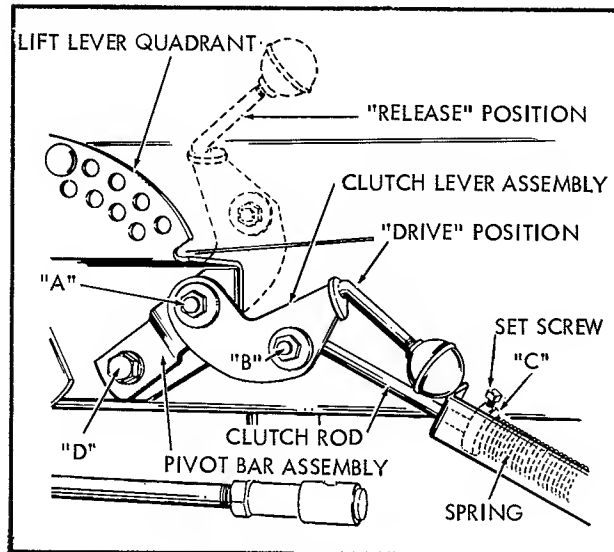

Fig. 4
4. Remove hex cap screw "D" from frame of tractor and mount bracket in place under lift lever quadrant. See figure 4. Position the pivot bar assembly flush against bottom of lift quadrant and re-install hex cap screw and tighten securely. Check alignment of drive pulley on bevel gear shaft, driven pulley of power take-off, and idler pulley, and adjust driving pulley if necessary.
Operation of the power take-off is controlled by movement of the clutch lever assembly. See figure 4. When the clutch lever is in the forward raised position, the clutch rod releases the tension holding the idler pulley against the drive belt, and power will not be transmitted to the driven pulley of the power take-off assembly. When the clutch lever is in the back, depressed position, the clutch rod applies tension to the idler pulley and as the idler pulley takes-up the slack in the drive belt, power is transmitted from the drive pulley on bevel gear box shaft to the driven pulley of the power take-off. Figure 4 shows clutch lever in drive position.
At points "A" and "B" of figure 4, check tightness of hex nut to be sure that clutch lever assembly and clutch rod are free to pivot without binding.
Place clutch lever in "drive" position and observe clearance between collar "C" (figure 4) and end of bracket. This clearance should normally be approximately 3/4 inch; at this setting the idler pulley should be snugly against the drive belt. If additional tension is required, release clutch lever and loosen set screw on collar and slide collar farther back on clutch rod. Retighten set screw in collar and put clutch lever in drive position. Recheck clearance. The tension of the idler pulley against the drive belt must be sufficient to operate whichever tractor attachment is being used. Any additional tension is unnecessary and will only cause premature failure of belts and idler pulley bearings.